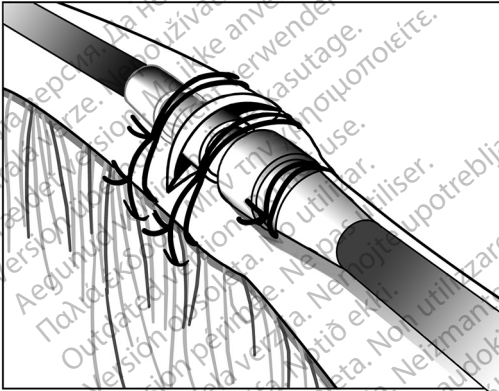

Figure 12. Example of suture sleeve, venous cutdown technique
3. Using the same groove, secure the lead and vein to the adjacent fascia (Figure 12 Example of suture sleeve, venous cutdown technique on page 31).